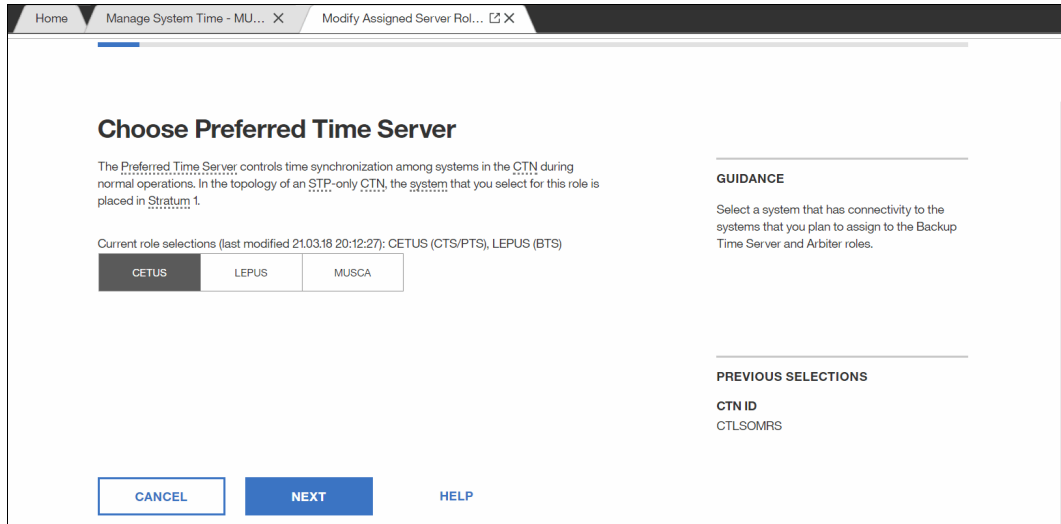

Figure 8-62 Choose Preferred Time Server window
- The Choose Preferred Time Server window opens. Select the CPC name for the PTS. In this example, we do not change the PTS; therefore, CETUS remains selected (see Figure 8-62).